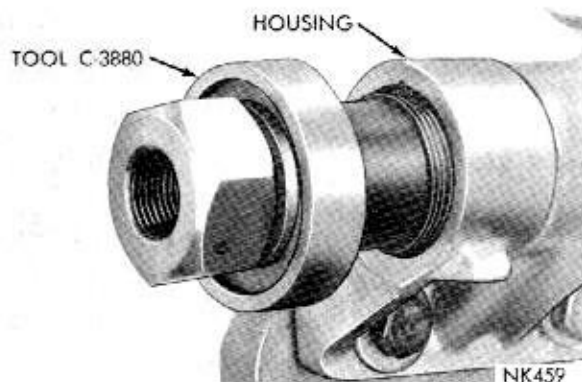
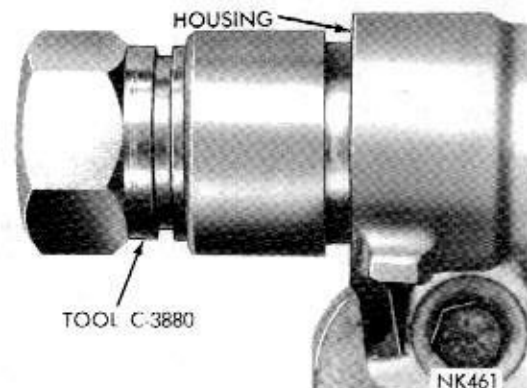

Fig. 13—Removing Cross Shaft Oil Seal
Fig. 14—Installing Cross Shaft Oil Seal
(40) Make certain some lash exists between cross shaft sector teeth and ball nut rack. Install and tighten cover bolts to 25 foot-pounds.
(41) Position cross shaft seal on cross shaft with lip of seal facing gear housing. Place installing adapter SP-3828 from Tool C-3880 against seal with **short step** toward seal (Fig. 14). Position nut from Tool C-3880 on cross shaft and turn it down against adapter, pressing seal into housing until step on adapter contacts end of housing. Remove tool.
(42) Turn wormshaft about 1/4 turn away from center of "high-spot" position. Using torque wrench C-3380 and 3/4 inch socket on wormshaft spline,
(2) Slide threaded adapter over end of cross shaft and install nut portion of tool on shaft. (Fig. 13). Maintain pressure on adapter with tool nut while screwing adapter into seal until it grips oil seal firmly. Place two half rings and retainer over both portions of tool. Turn tool nut counterclockwise to withdraw seal from housing.
(3) Place seal onto splines on cross shaft with lip of seal facing gear housing.
(4) Place installing adapter SP-3052 from Tool C-3880 against seal. Press seal in until a gap of 1/4 inch exists between adapter and housings (Fig. 14).
(5) Place nut from Tool Set C-3880 on cross shaft, and turn it down against adapter, pressing seal into housing until step on adapter contacts end of housing.
(6) Remove tool, install steering arm, lock washer and retaining nut and tighten nut to 180 foot-pounds.